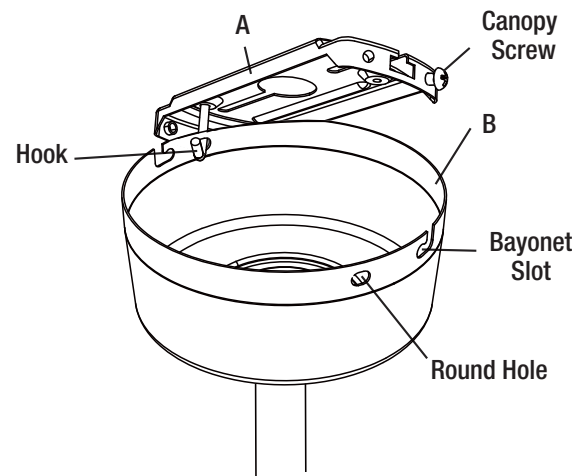

Figure 7
- Before making any electrical connections, hook one of the screw holes on the ceiling canopy (B) with the hook on the mounting bracket (A) so it hangs (Figure 7).